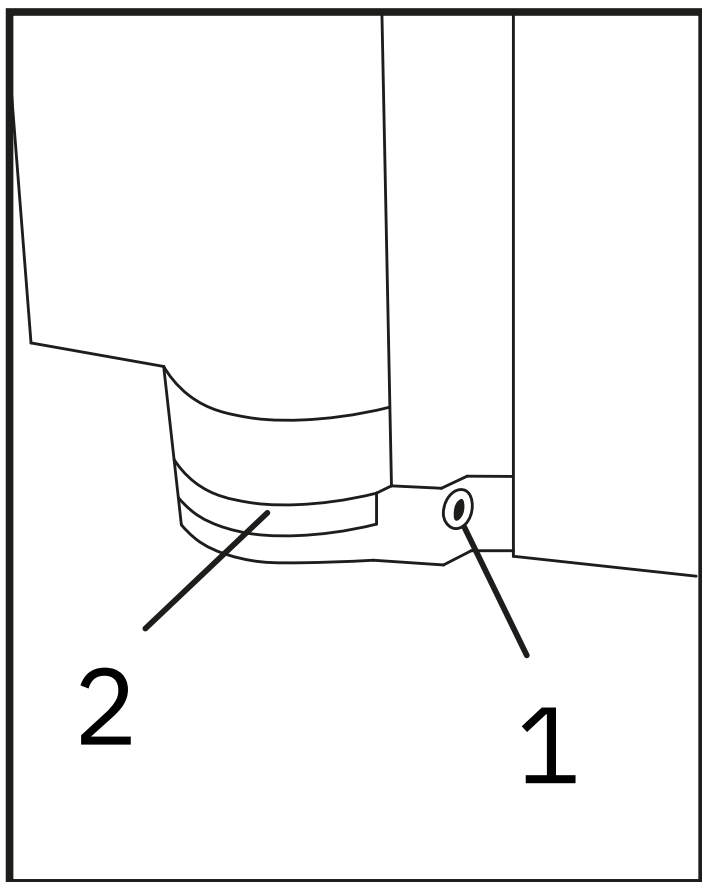

Figure 8
14. To adjust the mono hinge, loosen both washer mounting screws (1) a few turns using the included hex key. (Fig 8)
15. Move the glass (2) to the desired position where you want to fix the door.
16. When the glass (2) is in the desired position, tighten the washer fixing screws (1).